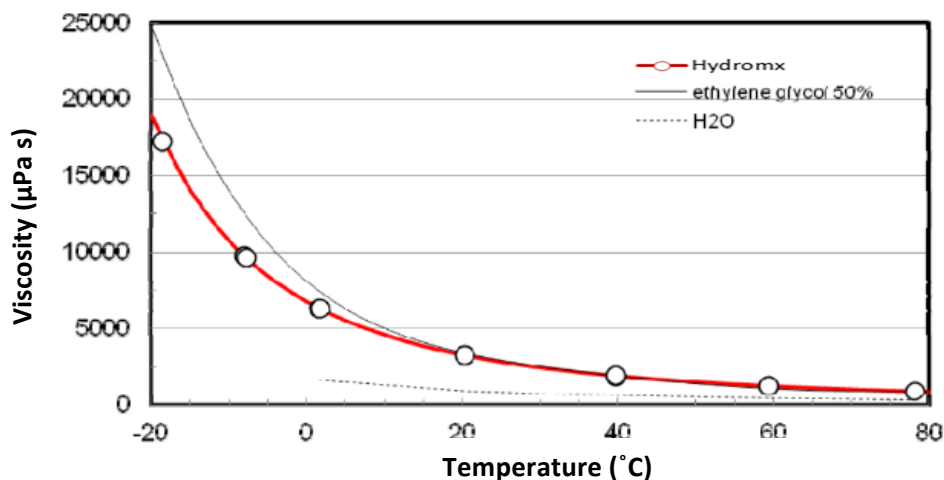

Figure 5. Measurements of the viscosity of Hydromx as a function of temperature.
In the above equation, η ($\mu\text{Pa s}$), is the viscosity, and T (K), is the temperature. In Table 5, values calculated by this equation are also shown. The percentage deviations of using this equation are less than 0.7%. In Figure 5, the measured viscosities of Hydromx are shown. For comparison reason, typical literature values for the viscosity of water and ethylene glycol 50%, is also shown.